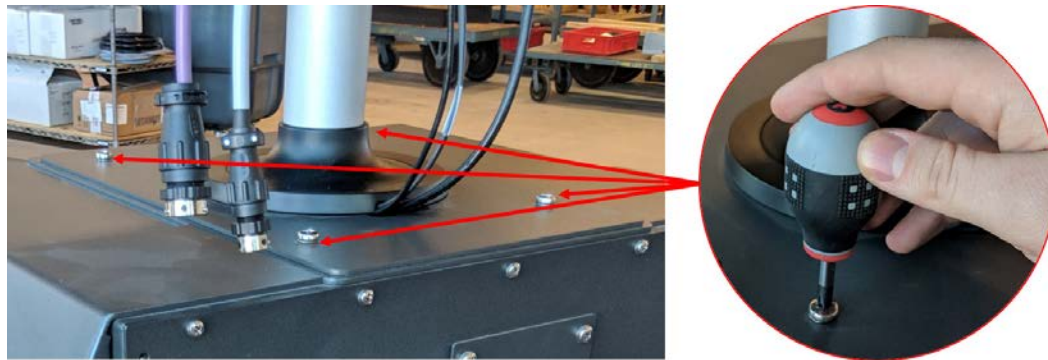

Figure 15-22 Operator Interface Screw Removal
4. Use a #4 Phillips screwdriver to remove the four screws that hold the operator interface to the top of the mainframe. Refer to Figure 15-22.